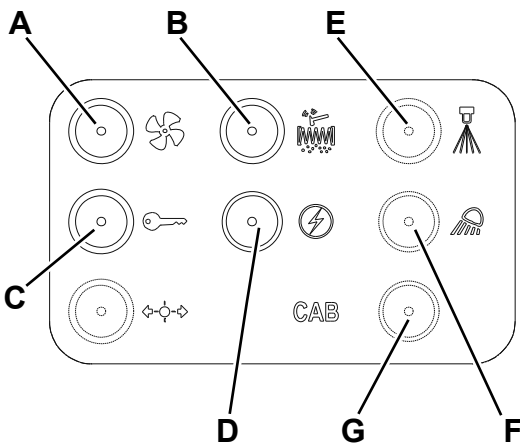

Figure 8
3. Turn the ignition key (57) to "O" and remove it.
4. On the panel (38), check for deactivation of one of the following fuses (Fig. 8):
- (A): F1 (10 A), dust vacuuming
- (B): F2 (10 A), filter shaker
- (C): F4 (16 A), ignition key
- (D): F5 (10 A), motor auxiliary
- (E): F3 (2 A), DustGuard system (if equipped)
- (F): F6 (10 A), working lights (optional)
- (G): F8, cab blower (optional)